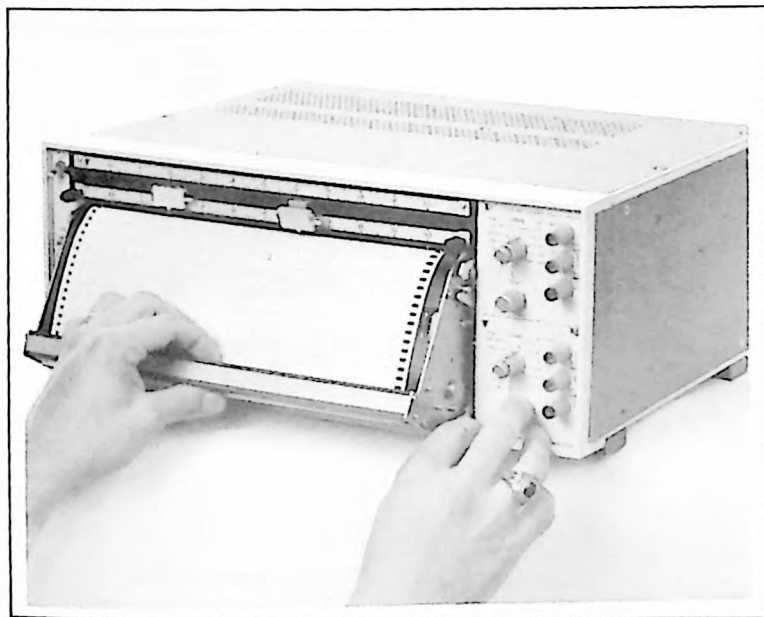

Figure 5-4. Chart Magazine Removal
a. Chart Magazine — Press magazine latch down to release magazine. Lift magazine up and out. Refer to Figure 5-4.